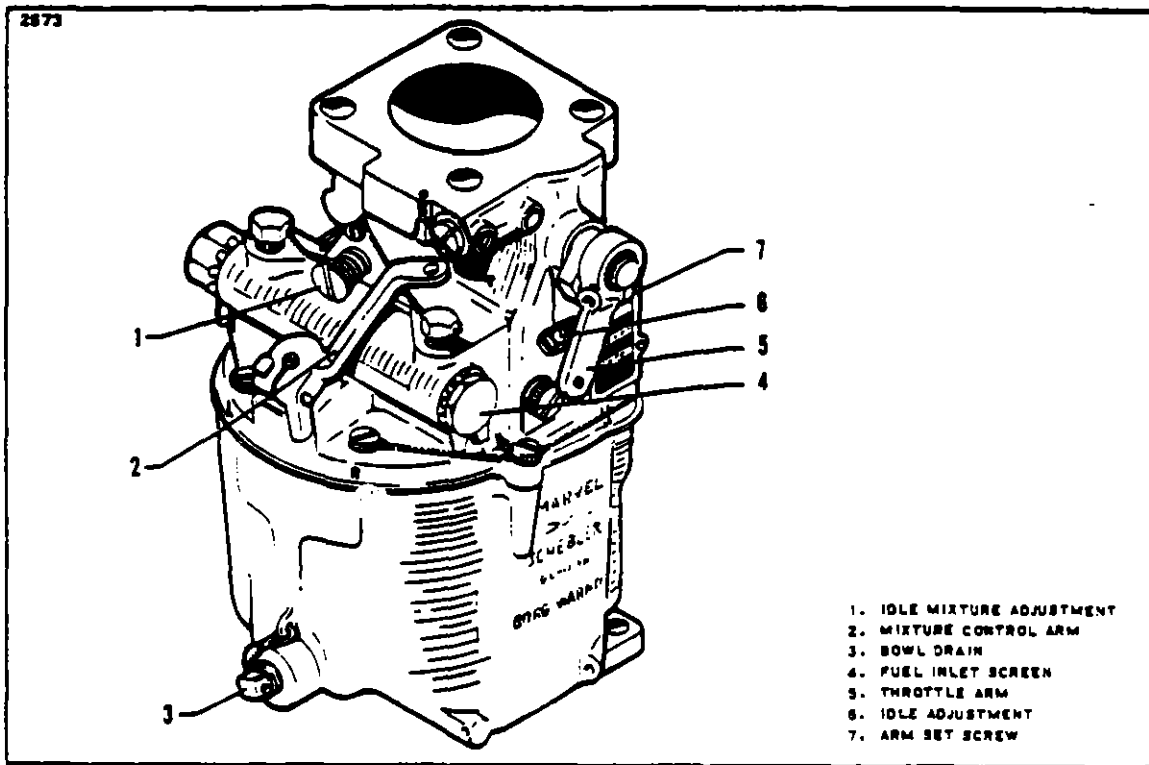

FIGURE 7-7. CARBURETOR
**7-33. Carburetor Maintenance.** (Refer to Figure 7-7.) In general, little attention is required between carburetor overhauls. However, it is recommended that the following items be checked during periodic inspection of the engine.